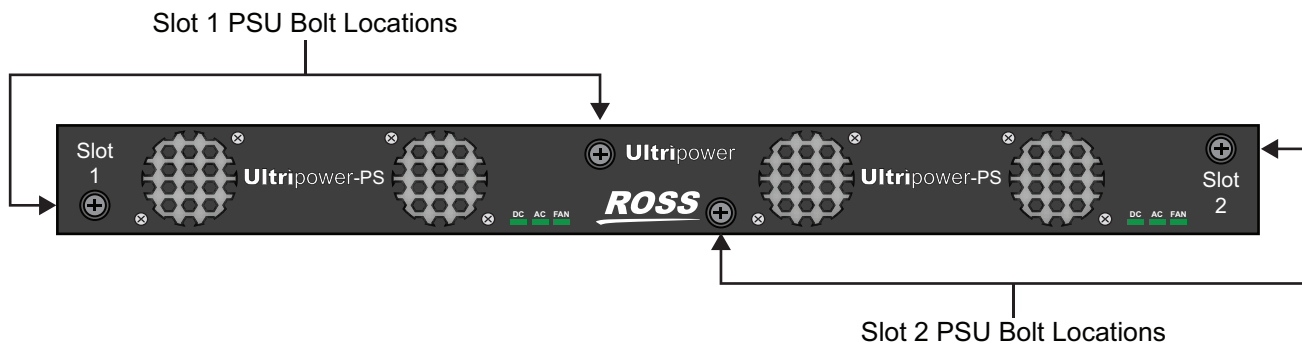

Figure 8.1 Ultripower Front Panel — Location of Screws on the PSU Modules
2. Disengage the two retaining bolts that affix the module to the chassis. Note that the bolts are not removable. Refer to **Figure 8.1** for the bolt locations.